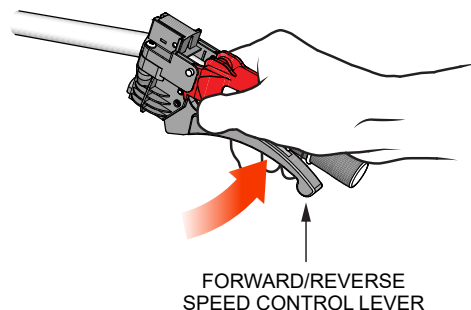

Figure 8. Forward/Reverse Speed Control Lever (Electric)
4. Slightly squeeze the **forward/reverse** speed control lever (Figure 8) until the buggy begins to move in a **forward** direction.
7. Slightly squeeze the **forward/reverse** speed control lever (Figure 8) until the buggy begins to move in a **reverse** direction.